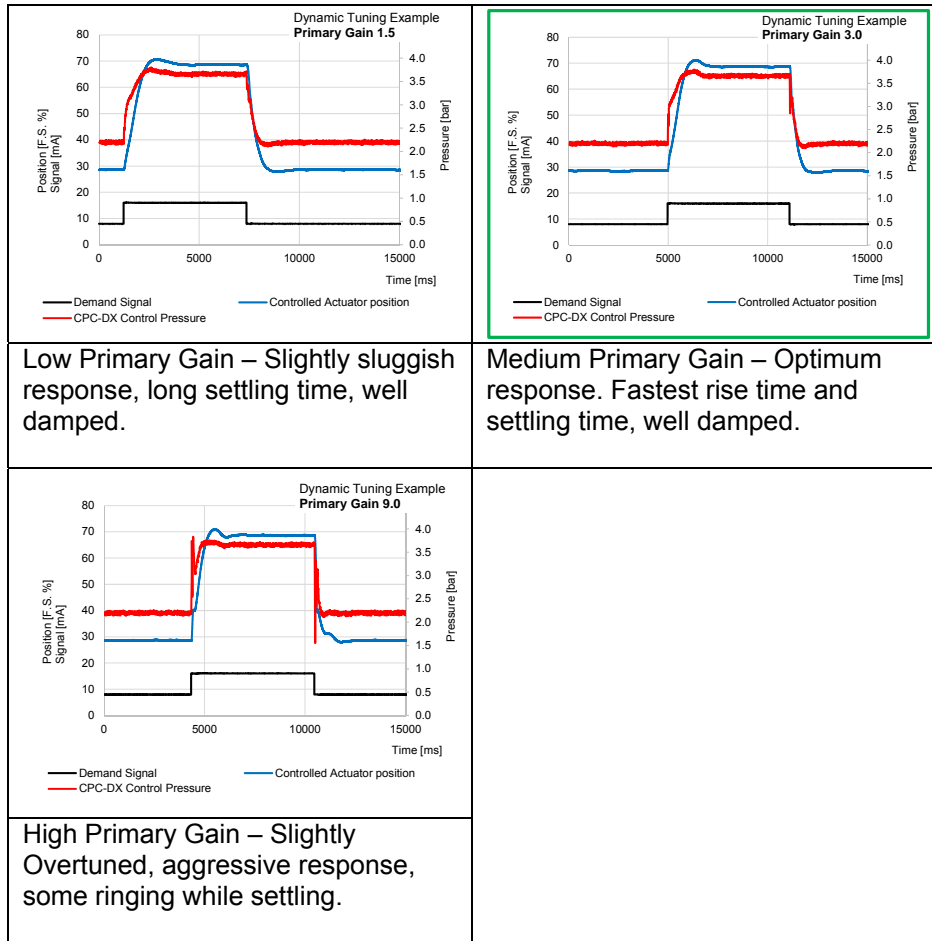

Figure 4-10. Tuning Runs Showing the Effect of Adjusted Primary Gain Example Parameter Values
- Use flat wrench SW 22 and then use hand to unscrew (in counterclockwise direction) adapter with pressure gauge from pressure test port (see Figure 4-10.)